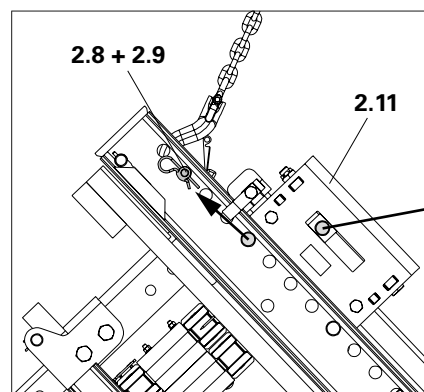

Fig. B1.18a
1. Remove 2x fitting pins  $\varnothing$  26 (**2.8**) and cotter pins 5/1 (**2.9**) from the marked positions on the Adjusting Unit SCS (**2.11**). (Fig. B1.18a)
2. Insert fitting pins  $\varnothing$  26 (**2.8**) into the holes on the crossbeam and secure with cotter pins 5/1 (**2.9**). (Fig. B1.18a + B1.18b)